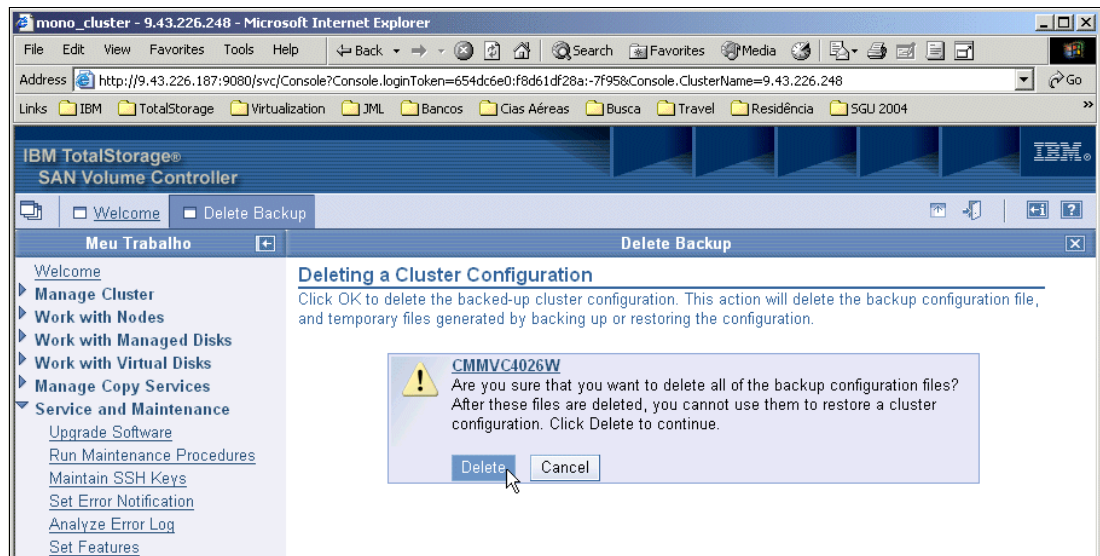

Figure 9-106 Deleting a Cluster Configuration confirmation message
3. Click **Delete** to confirm the deletion of the configuration backup data. See Figure 9-106.